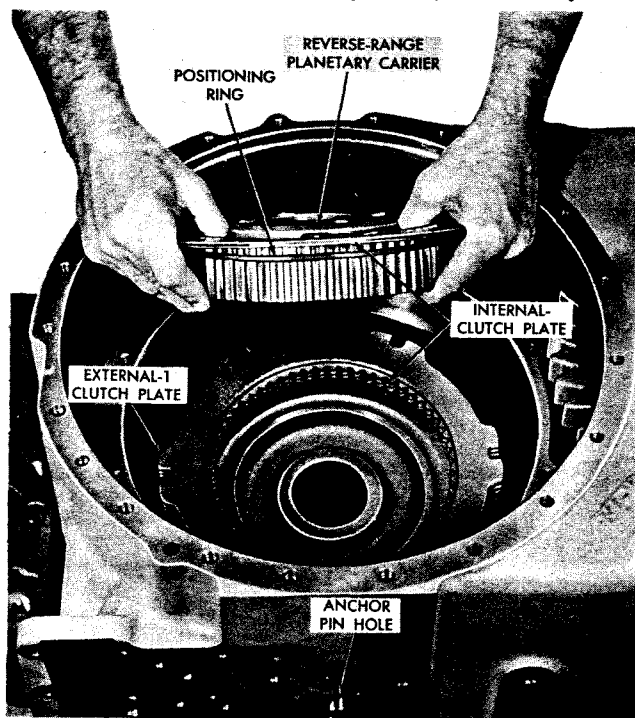

Fig. VII-1. Installing reverse-range planetary carrier and clutch plates
(2) Starting with an external-tanged clutch plate, install five external-tanged clutch plates and four internal-splined clutch plates alternately (fig. VII-1).
(3) Install the reverse-range planetary carrier assembly (fig. VII-1), and one internal-splined clutch plate on the positioning ring.